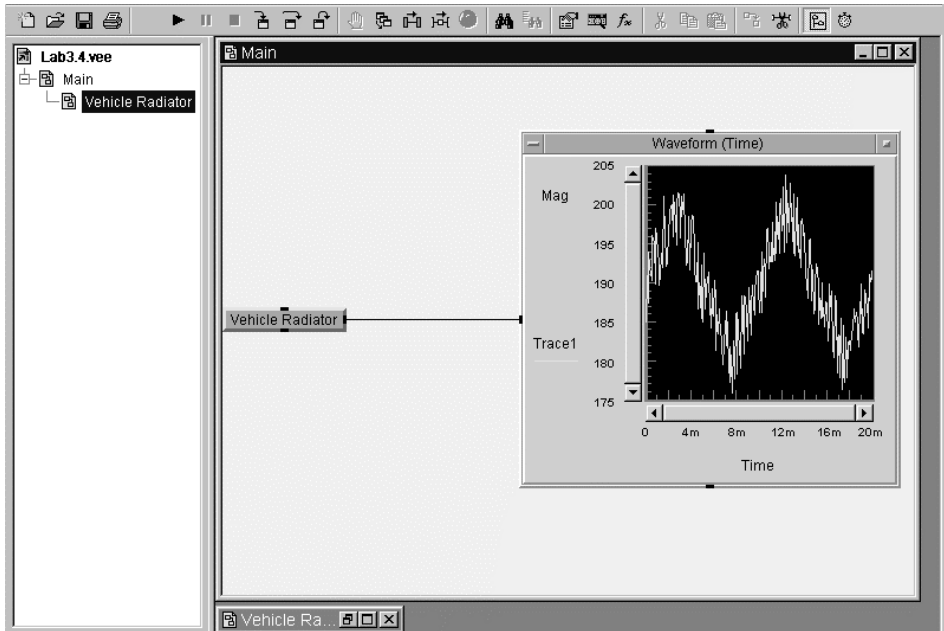

Figure 3.8. Vehicle Radiator with temperature variations
31. Go to the Tool Bar; click the (right-facing arrow) run button; a noisy waveform will appear on the virtual scope. See Figure 3.8.